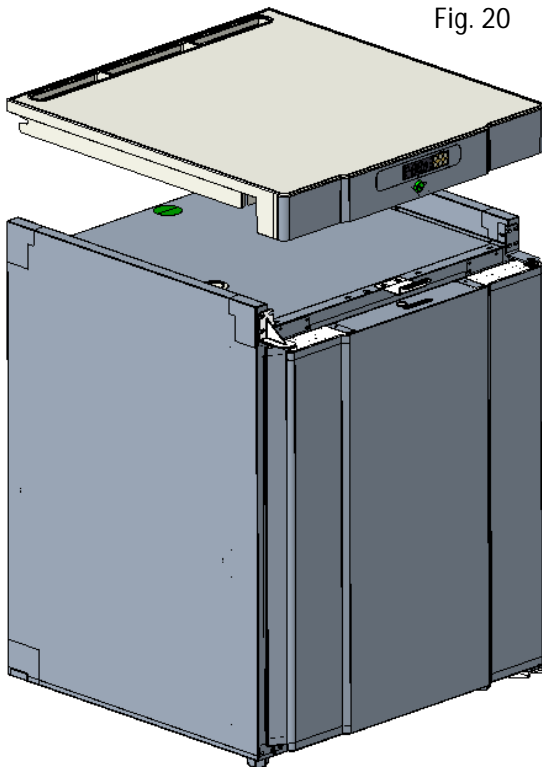

Fig. 21
2. Open the panel as shown in figure 21.